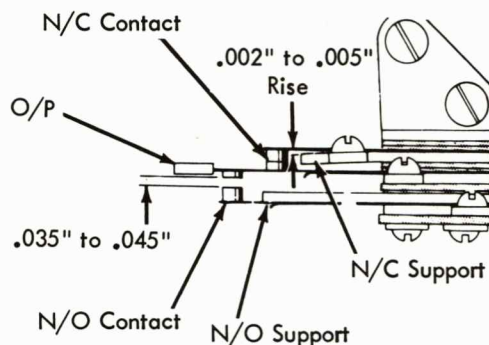

FIGURE 149. Carrier Return Interlock Inactive
- a. Form the N/C support so that the O/P lifts the N/C contact .002" to .005" (Fig. 149).
- b. Form the N/O support so that the O/P clears the N/O contact .035" to .045" (Fig. 149).